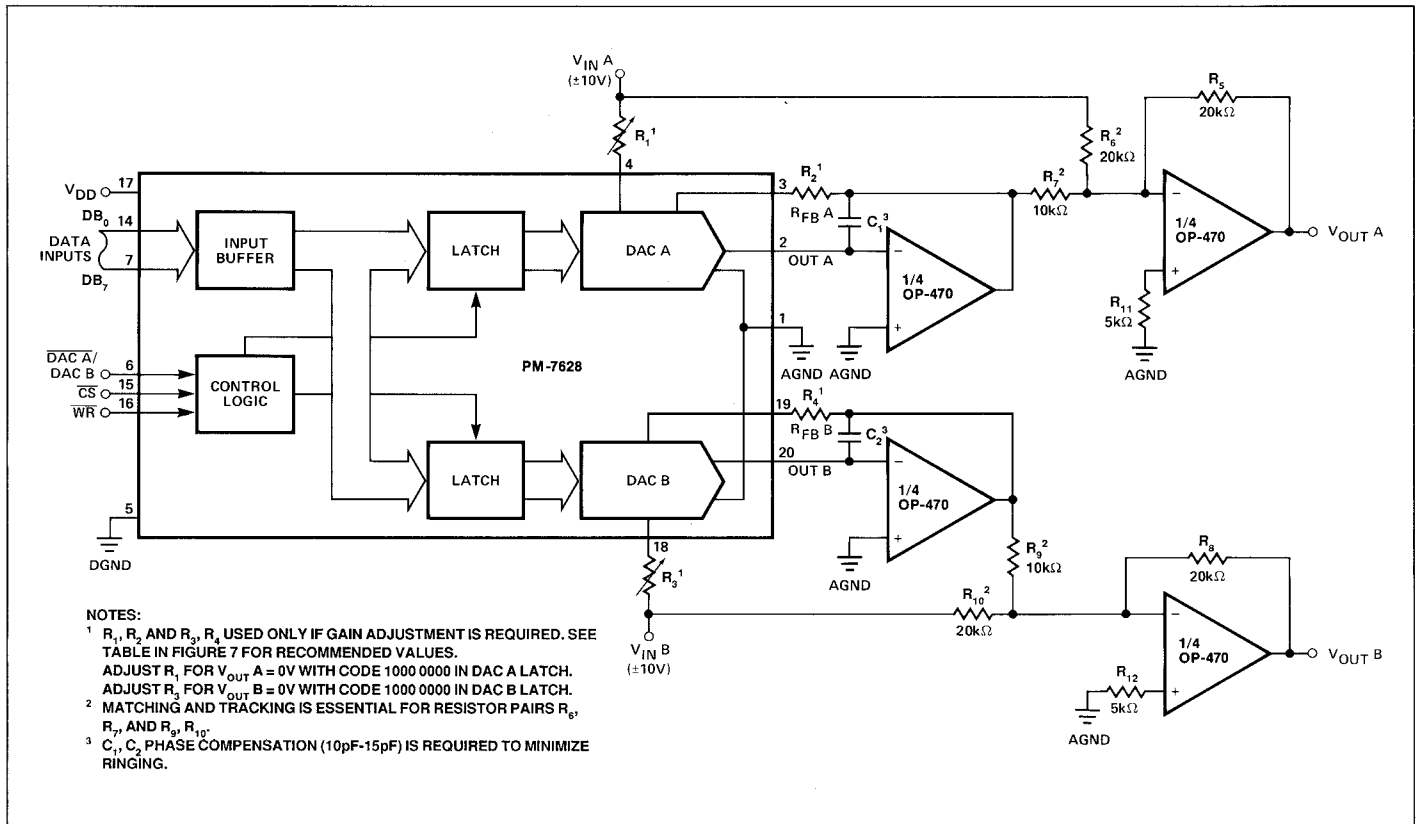

FIGURE 8: Dual DAC Bipolar Operation (4 Quadrant Multiplication). See Table 2.
For bipolar output operation, connect the PM-7628 as shown in Figure 8. This circuit configuration provides an offset current, derived from the reference, to enable the output op amp to swing in both polarities. The digital input coding becomes offset binary. Table 2 provides some example analog outputs for various digital inputs (D). The transfer equation for bipolar operation is $V_{OUT} = V_{IN} \times (D/128 - 1)$, where D is the decimal value of the data bit inputs DB₀ thru DB₇. This circuit provides full four-quadrant multiplication, able to accept ± polarities on both inputs as well as the circuit output.
TABLE 2: Bipolar (Offset Binary) Code Table. See Figure 8.